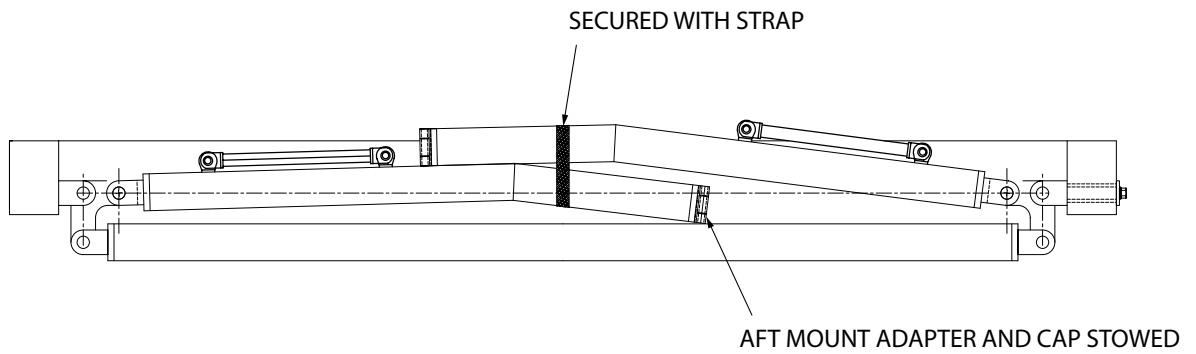
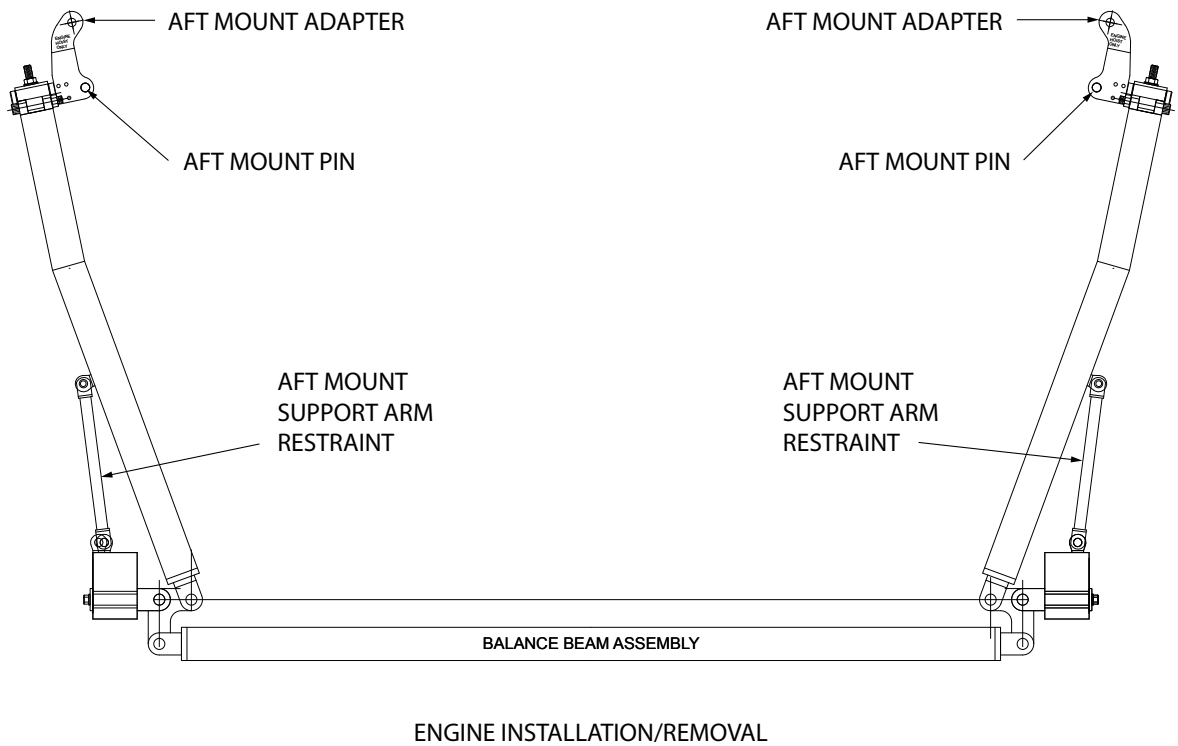

Figure 5.1-2 AFT Mount Support Arms
Figure 5.1-3
- 4) Release the AFT arm supports from the stowed position (Figure 5.1-2) then pivot outward and secure with the restraint braces. (Figure 5.1-3)
- 5) Install the AFT mount adapters on the AFT mount supports. (Figure 5.1-3)